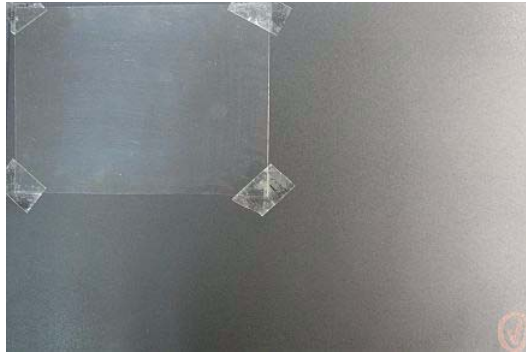

Figure 6-39: Positioning the transparency on the build tray
10. In the wizard screen shown in figure 6-39, select the *Transparency removed* check box, and click **Next**.